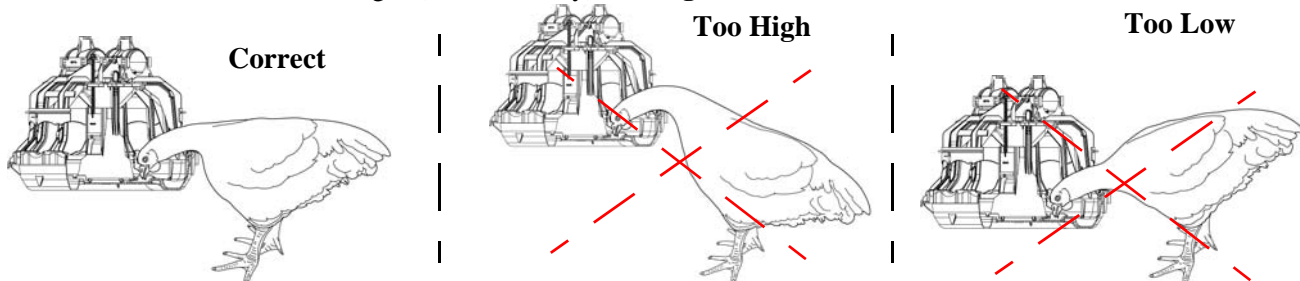

Figure 3. Feeder Height Adjustment
1. Maintain correct feeder height (check weekly), see Figure 3.